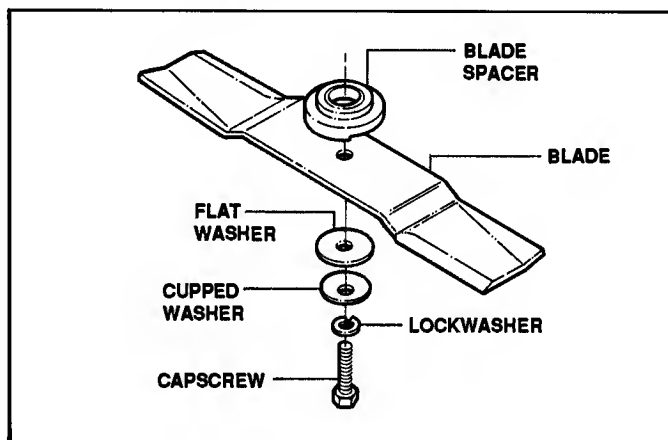

FIGURE 11.11
2. Always check condition of the blade retaining hardware. This is very important to assure that they will not loosen during operation. Replace any blade retaining fasteners which appear damaged or worn, with genuine SNAPPER parts only - **DO NOT** use any substitutes or unauthorized replacements and double check to make sure the correct part number is used. See Figure 11.11.